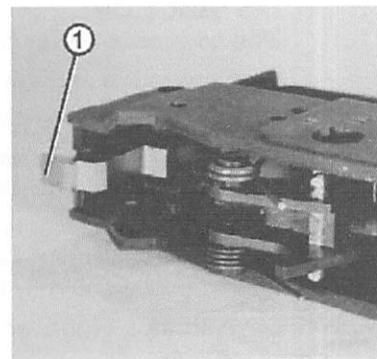

Fig. 65 Replacement of catch
- ⇒ Withdraw the catch (Fig. 65/1) from the pistol grip upwards.
- ⇒ Pay attention to the assembly position of the catch (Fig. 65).